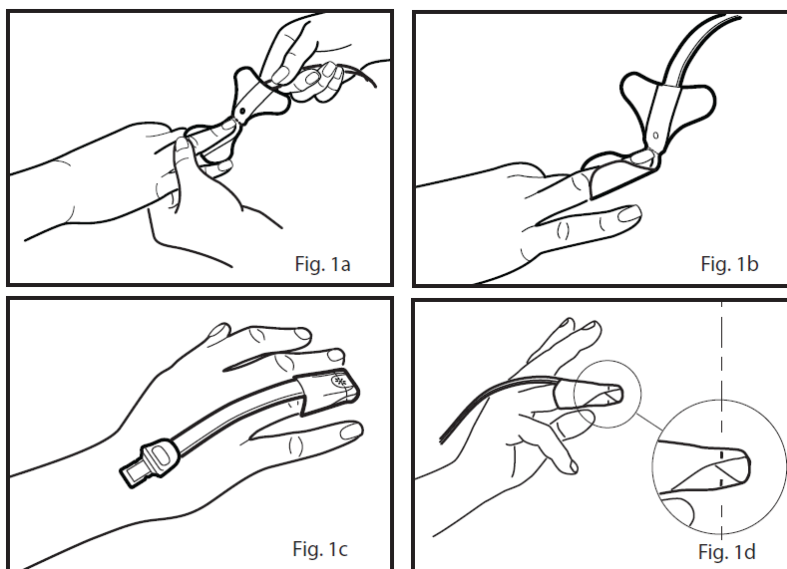

Fig. 19 RD SET Sensor Application for Pediatrics 10-50 kg
- 2 See Fig. 1a in Fig. 19: Orient the sensor so that the detector can be placed first. Place the tip of the finger on the dashed line with the fleshy part of the finger covering the finger outline and detector window.
- 3 See Fig. 1b in Fig. 19: Press the adhesive wings, one at a time, onto the finger. Complete coverage of the detector window is needed to ensure accurate data.
- 4 See Fig. 1c in Fig. 19: Fold the sensor over the finger with the emitter window (red star) positioned over the fingernail. Secure the wings down, one at a time, around the finger.
- 5 See Fig. 1d in Fig. 19: When properly applied, the emitter and detector should be vertically aligned (the black lines should align). Reposition if necessary.